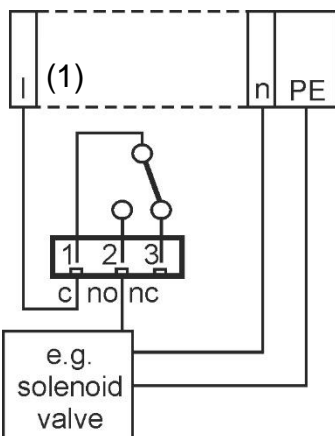

Figure 12
To connect the cable, proceed as described below. Use Figure 12 as a guide.
5. If the system components require mains power, connect the external switched mains voltage (l) to the root contact (1) of the respective relay (see connection example in figure 12).